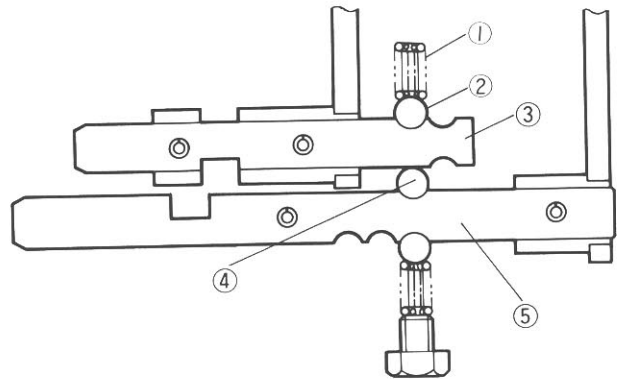

Fig. 14-50
- 5) Before installing the reduction shift shaft ⑤ in the center case together with the clutch sleeve, make sure to set ball ④ in place (see Fig. 14-50). The clutch sleeve should be installed in such a direction as shown in Fig. 14-52.